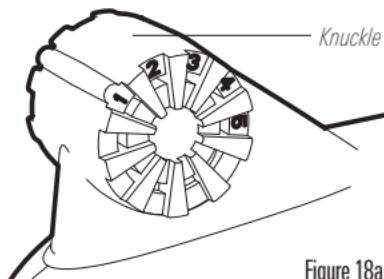
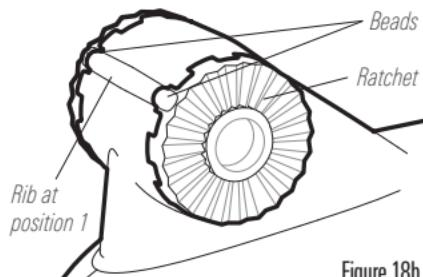
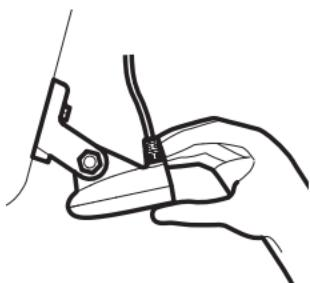
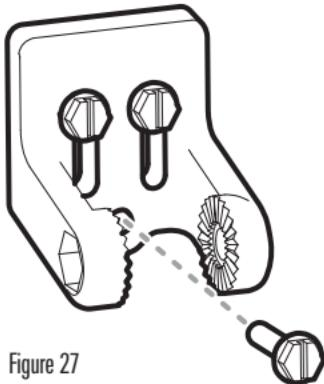

Figure 18a
Figure 18b
Figure 21
Figure 27
2. Place the two ratchets, one on either side of the transducer knuckle, so that the beads on each ratchet line up with the desired position number on the knuckle (Figure 18a). If you are setting the ratchets at position 1, the beads on each ratchet will line up with the rib on the transducer knuckle to form one continuous line on the assembly (Figure 18b).
5. Adjust the initial angle of the transducer from back to front by rotating the transducer until the side seam on the transducer is almost parallel with the bottom of the boat, one click at a time in either direction (Figure 21 and 22).
If you are still not getting good high speed readings, you may need to disassemble the transducer mounting assembly and re-position the ratchets (Figures 18a - 18d).
8. Re-position the transducer bracket against the transom of the boat, then hand-install all three screws. Make sure that the transducer location has not changed, then fully tighten all three mounting screws (Figure 27). **Hand tighten only!** Re-install the transducer to the mounting bracket, making sure to assemble the ratchets in the same location they had before. (See Figures 18a - 18d and Figure 21 - 22). If you have performed the preceding procedures correctly, the transducer should be level and at the right height for optimal operation.